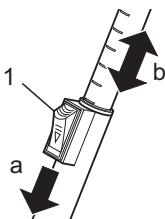

Fig.10
7. Adjust the length of the telescopic tube. To do this, press down the button to release the telescopic tube (Fig. 10/1) (Fig. 10/a). Then pull the telescopic tube by the handle (Fig. 1/1) to the desired length (Fig. 10/b). To lock it, release the button while simultaneously pulling on the telescopic tube. You will hear an audible click.